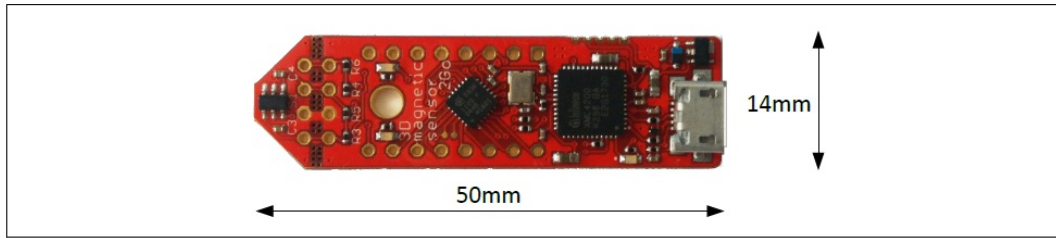

Figure 1 3D Magnetic Sensor 2 Go EvalBoard
- The 3D evaluation board (EvalBoard) as shown in Figure 1, a ready-to-use printed circuit board (PCB) with the 3D Hall sensor. The EvalBoard is based on the XMC2Go-Kit. More technical documents and detailed description can be found at <http://www.infineon.com/xmc2go>.